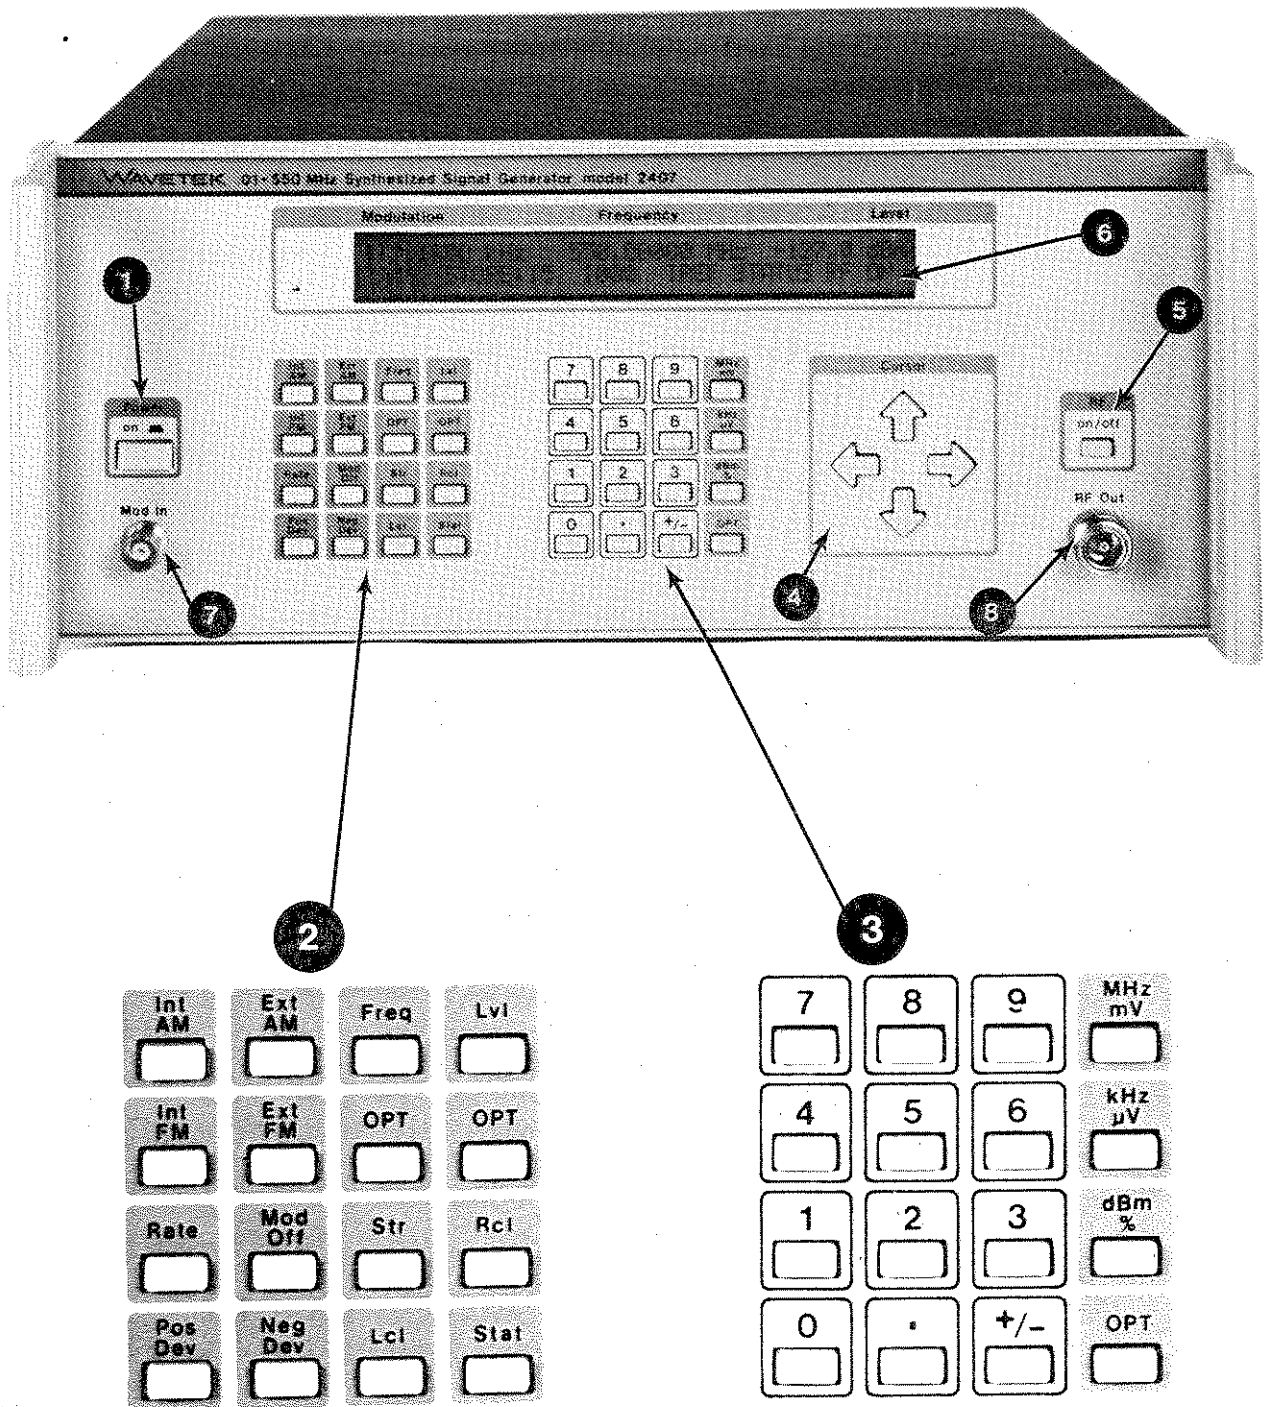

Figure 3-1. Wavetek Model 2407 Front Panel
Front panel operating controls, displays, and connectors are shown in Figure 3-1. All controls necessary for local (manual) operation of the unit are located on the front panel. Front panel features are identified by number in Figure 3-1. Each numbered feature is briefly described in the following paragraph with the same number.
The front panel display is a two line by forty character, dot matrix, liquid crystal display (LCD). The display provides information about RF output characteristics, indicates operational status of the instrument, and shows deviation meter readings. The display is divided into various information fields described in the following sections. The top line includes modulation information, frequency information, and level information. The bottom line includes additional modulation information, front panel setting storage/recall information (memory), GPIB and external reference indicators, status information, and the RF on/off indicator. Both lines carry deviation meter information. Many of the numeric values shown on the display will contain the underlined resolution digit used with the cursor (see item 4 of Figure 3-1 and see section 3.3).
After a blank space, the next four characters of the modulation field indicate the numeric portion, including decimal point, of the modulation value. The Cursor (see item 4 of Figure 3-1 and see section 3.3) may be used to control these digits. After another blank space, the last three characters show the modulation units (% or kHz). When no modulation (internal or external) is in effect, MOD OFF is displayed in this field.
The frequency field is on the first line of the display, below the "Frequency" label. It consists of characters 15 through 28 on the line and is separated from the modulation field by two blank spaces. The numeric value of the frequency, including decimal point, is shown in the first ten characters. The Cursor (see item 4 of Figure 3-1 and see section 3.3) may be used to control these digits. After a blank space, "MHz" units are shown.
The level field is composed of the last ten characters on the first line of the display. These characters are located under the "Level" label. Two blank spaces separate this field from the frequency field. The first character in the level field is the plus or minus sign for level in dBm. The next five characters show the numeric value of the level, including decimal point. The Cursor (see item 4 of Figure 3-1 and see section 3.3) may be used to control these digits. After a space, the last characters are dedicated to the level units (dBm or mV or  $\mu$ V).
When instrument settings are loaded into (stored) or recalled from memory locations, the location for storage or recall is shown under the Frequency label on line two of the display. Typical store/recall indications are STORE 11 and RECALL 11, for example. When a setting is changed and no longer represents the contents of a particular location, the location information is removed. The Cursor (see item 4 of Figure 3-1 and see section 3.3) may be used to increment or decrement the recall operation.
The fourth field on the second line contains the STATUS message that will flash on and off when an instrument error condition occurs. The STATUS error message will continue to flash on and off until the Status (Stat) key (item 2 of Figure 3-1; section 3.3) is pressed.